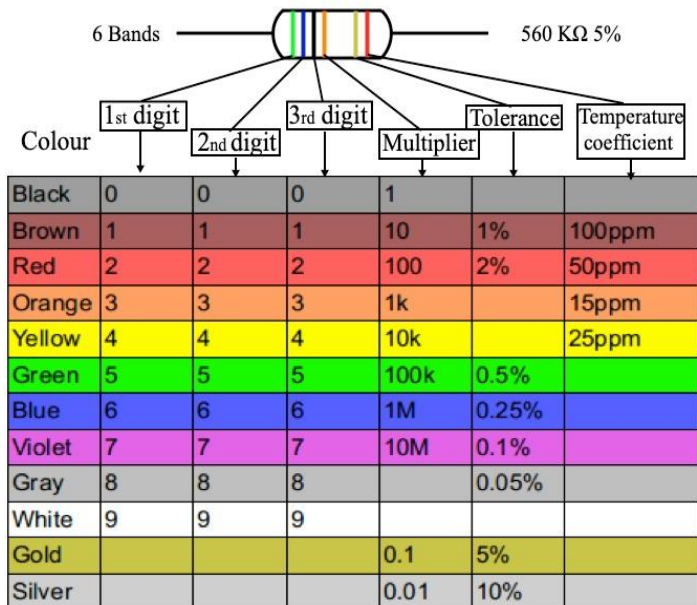

Figure 1.4.3: Resistance Colour Code
The resistance (R) which opposes flow of current is similar to that of friction in solids and viscosity in fluids. There are different types of resistors in which the resistance of the carbon resistors can be assessed with colour code using the Figure 1.4.3.